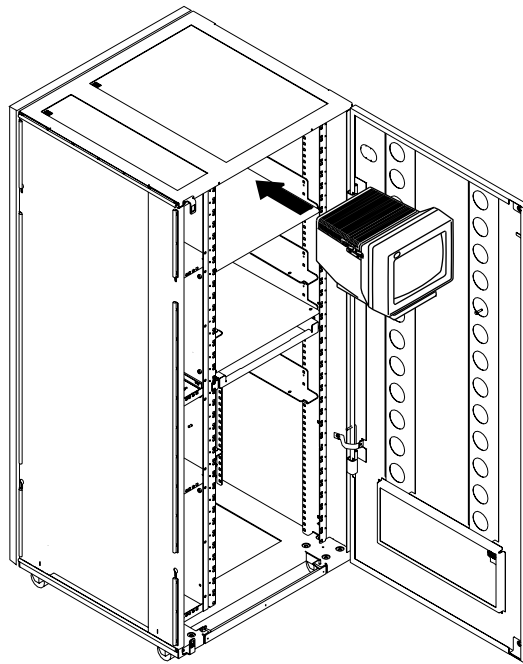

Figure 1-75. Installing the Display Screen in the Controller Expansion (Front Side)
8. ____ Slide the display screen on the top of the controller expansion (refer to Figure 1-75).